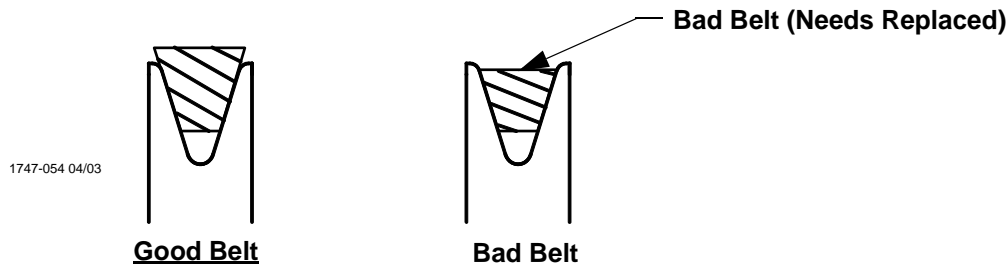

Figure 34. Belt Condition
- Periodically check the V-Belt and replace if necessary. A worn Belt will cause a substantial drop in Fan performance or it can break and cause Fan failure. If a Belt rides below the Sheave edge, replace the belt. (See Figure 34 below)